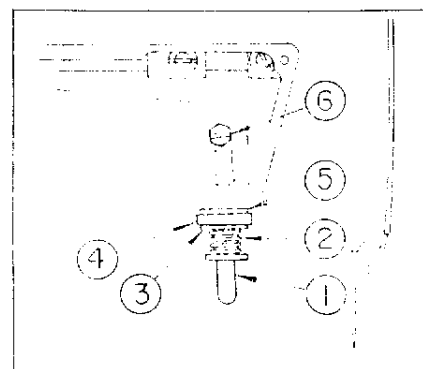

Fig. 4
- 4/ INSTALLATION DU LINGUET DE RELEVAGE EN " L " - FIG. 4